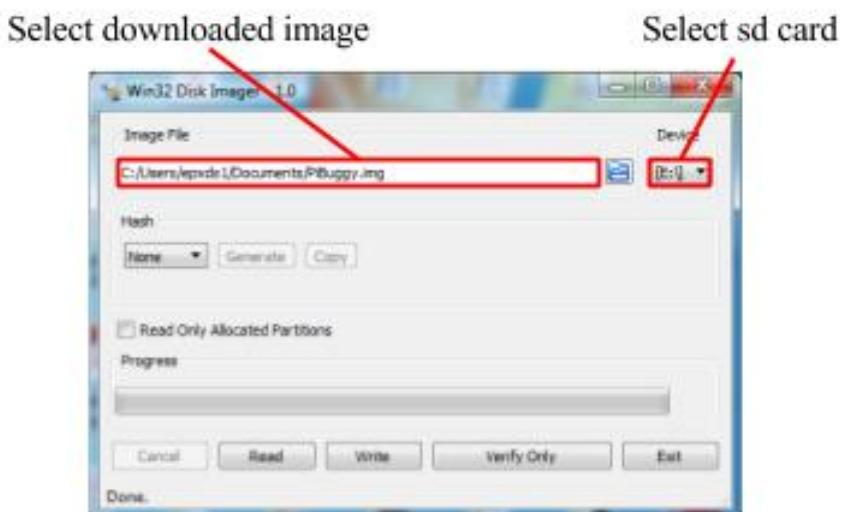

Figure 2: The disk imaging software.
Step 5: Using *win32diskimager*, write the .iso file you downloaded from moodle to the SD card. You will have to double click on *win32diskimager* to start it. Ensure you select the image you have downloaded and the SD card using the boxes shown in figure 2. Once you press “Write”, it will take around 30 minutes to write the image to the SD card, this is because it’s big file and the USB ports are slow. At this point you can begin the next section and return once the image write is complete. Don’t wait for it to finish writing – you don’t have time!